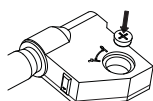

fig.2
---Put SR44 or LR44 battery into battery house, the positive side of battery (+) should face out (fig.2)